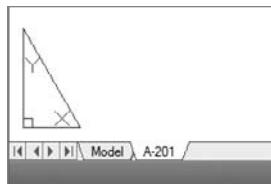

FIGURE 14.59 The Layout and Model tabs displayed in the application window
7. If you do not already have two tabs (Model and A-201) just under the drawing area shown in Figure 14.59, start the OPTIONS command and go to the Display tab of the Options dialog box.
the dialog box. Click OK to exit the Options dialog box and display the Layout and Model tabs in the application window (see Figure 14.59).